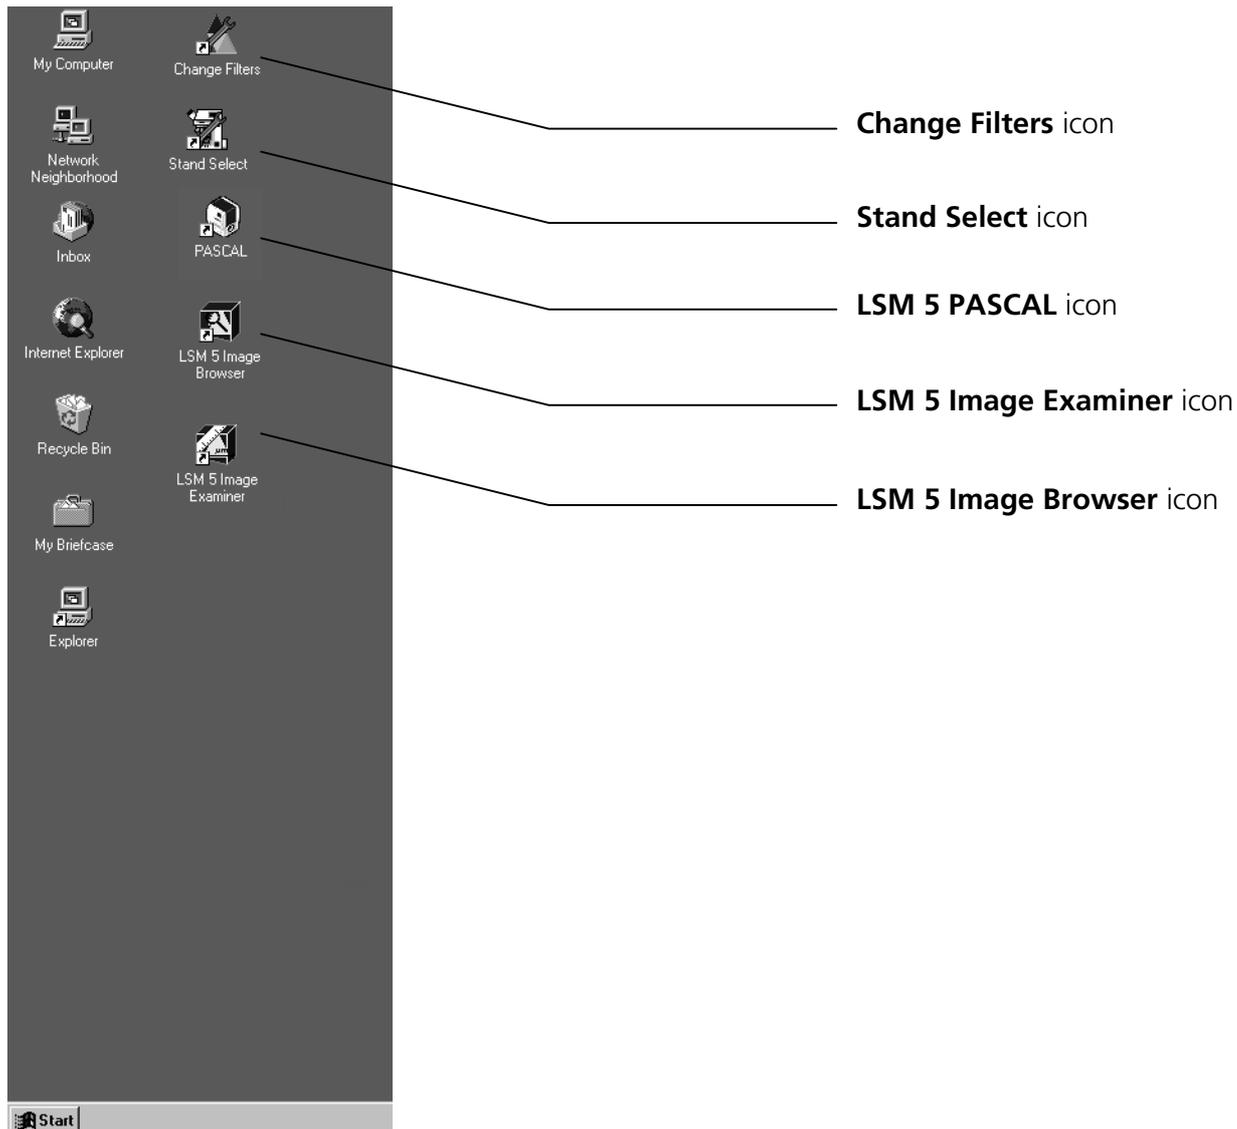

Fig. 4-6 WINDOWS NT operating system desktop
- Double-click on the **PASCAL** icon on the desktop of WINDOWS to start the LSM 5 PASCAL software program (see Fig. 4-6).